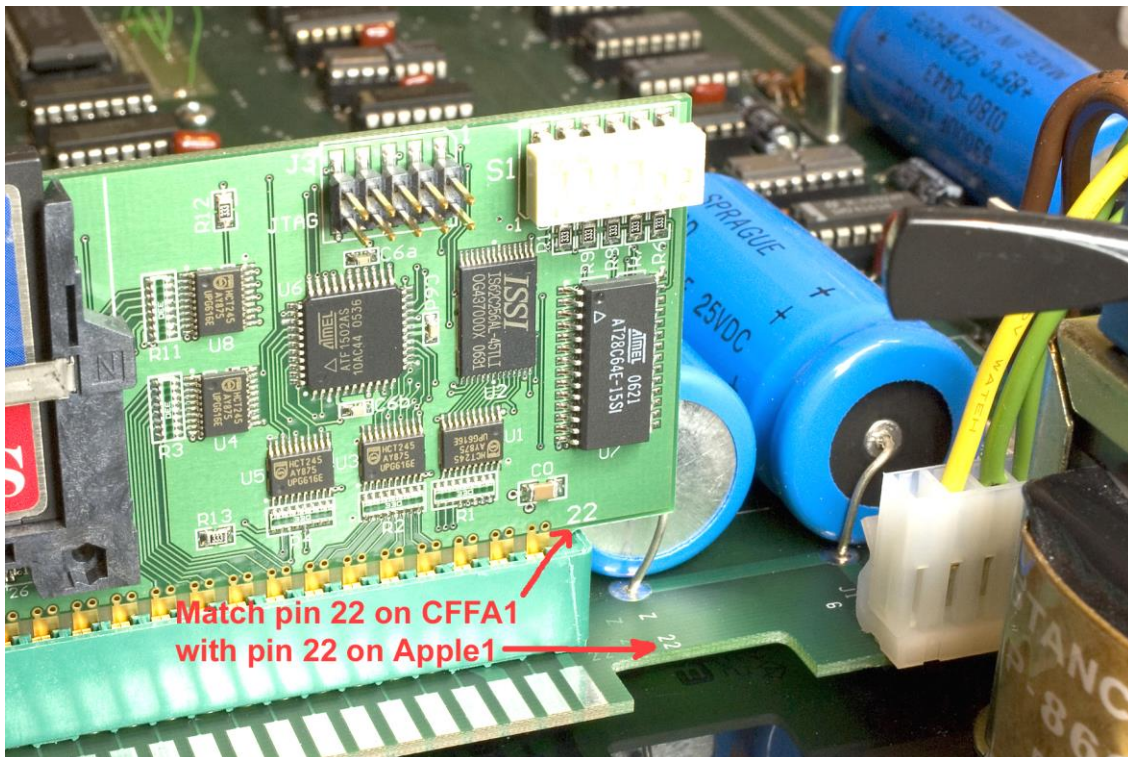

Figure 3: CFFA1 inserted **correctly** in Obtronix clone of the Apple1.
6. Before Inserting the CFFA1 Interface into your computer, determine the proper orientation using the silk-screen labels: '1', '22', 'A' and 'Z' located near the gold edge card fingers. Match these labels up with the labels on the host computer before inserting the CFFA1. See Figure 3 below for a picture of the CFFA1 correctly inserted in the Apple1.